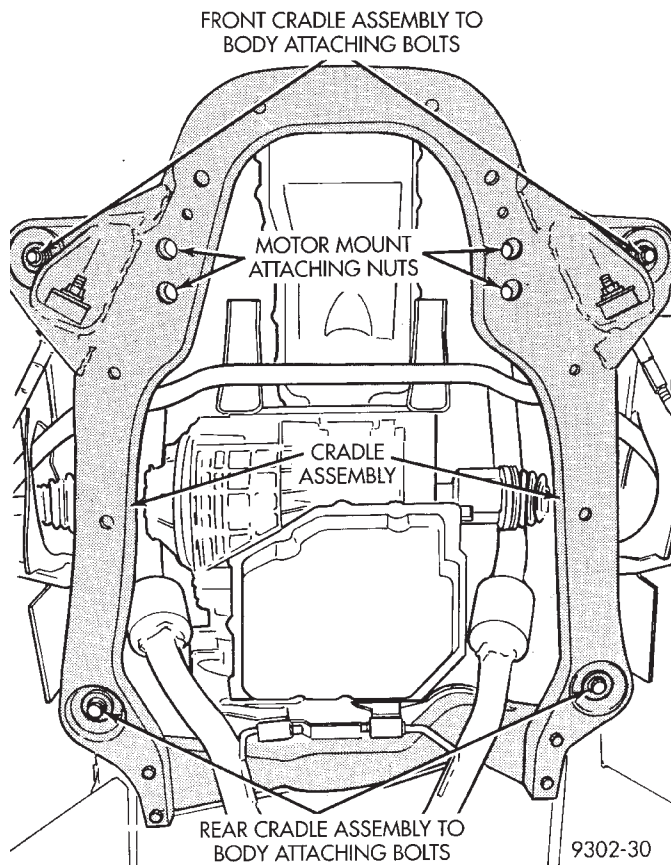

Fig. 47 Motor Mount To Cradle Assembly Attachment
(6) Remove the 4 nuts attaching the motor mounts to the cradle assembly (Fig. 47).
(10) Cradle assembly is now ready to be removed from vehicle using the following procedure. **A helper will be required when removing cradle assembly from vehicle .**
- Loosen but do not fully remove the 2 rear cradle assembly to body attaching bolts (Fig. 47).
- Loosen and remove the 2 front cradle assembly to body attaching bolts (Fig. 47).
- With a helper supporting rear of cradle assembly and the jack stand supporting transaxle. Remove the 2 rear cradle assembly to body attaching bolts (Fig. 47).
(3) With the aid of a helper raise cradle assembly back up into vehicle, resting front of cradle assembly on a jack stand. Then use following procedure to install cradle assembly back into vehicle.
- With the aid of a helper, raise rear of cradle assembly up far enough by hand to start the 2 rear cradle assembly to body attaching bolts (Fig. 47). Install bolts far enough to securely hold cradle assembly in place but **DO NOT TIGHTEN**.
- Continue to raise cradle assembly and engine using jack stand until the 2 front cradle assembly to body attaching bolts (Fig. 47) can be started.
- Using a crisscross pattern, tighten all 4 cradle assembly to body attaching bolts (Fig. 47) until cradle is seated up against body. Then repeating the crisscross pattern, tighten all 4 cradle assembly to body mounting bolts to a torque of 155 N·m (115 ft. lbs.).
(6) Install the 4 motor mount to cradle assembly attaching nuts (Fig. 47). Tighten the 4 nuts to a torque of 61 N·m (45 ft. lbs.).